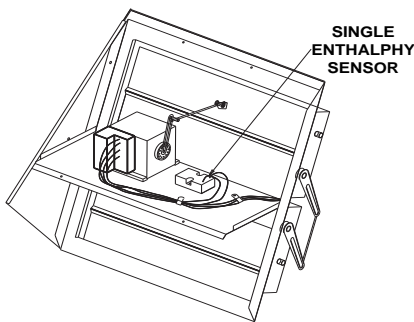
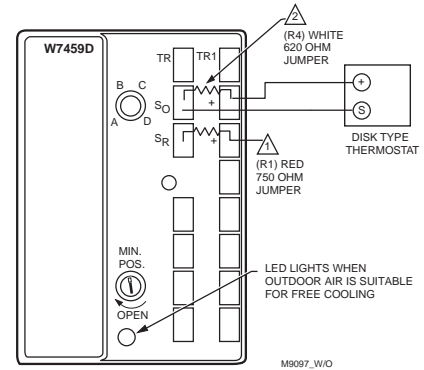
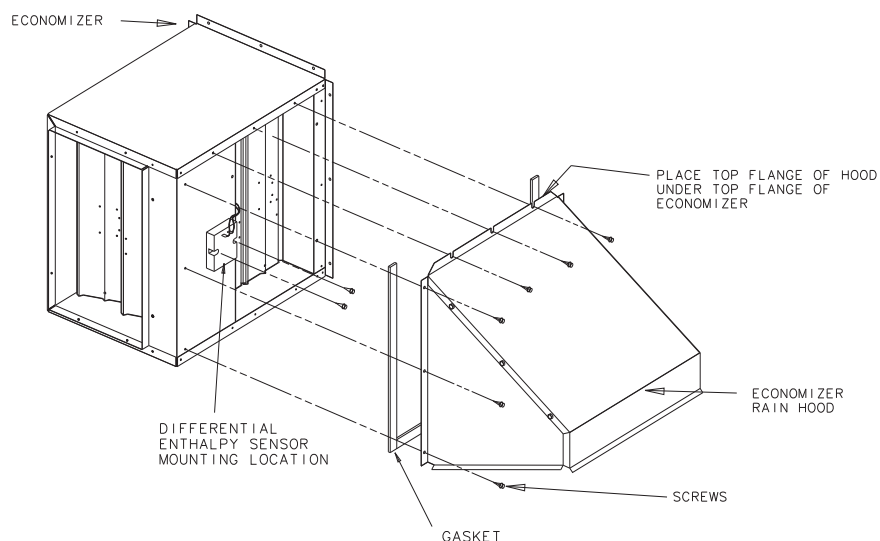

Figure 1.
Figure 3. Control module before installation
Figure 6.
- Next, disconnect the wires 56A and 50A(YL) from the thermostat.
- Using the two screws removed in step 2, mount the Enthalpy sensor in the thermostat's previous location, Figure 1.
- Connect wire 56A to S and 50A(YL) to + terminals on the Enthalpy Sensor.
- On the Control Module (Solid State Economizer Logic Module) attached to the Economizer Motor, remove the red resistor from terminals SR and + and discard. See Figure 3.
3. Next, disconnect the wires 56A and 50A(YL) from the thermostat.
4. Using the two screws removed in step 2, mount the Enthalpy sensor on the outside face of the economizer. See Figure 6.
5. Connect wire 56A to S and 50A(YL) to + terminal on the Enthalpy sensor.
6. Remove the filter access panel on the return side of the unit reach into the Control Module attached to the Economizer Motor, remove the red resistor from terminals SR and + and discard. See Figure 3.
2. Mount the second enthalpy sensor in the return air stream. See Figure 6.